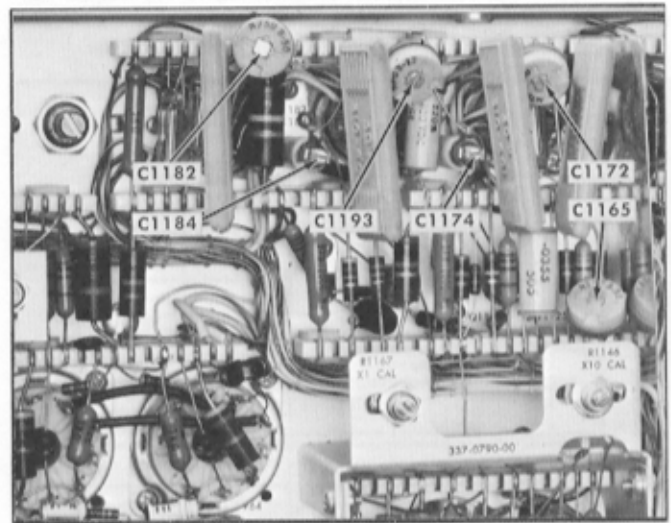

Fig. 6-47. High-speed sweep compensation adjustment, A sweep.
If the linearity from the 1st to 2nd marker is exceedingly poor, check the position of the slugs in C1174 and C1184 (Fig. 6-47). The slugs should normally be positioned about five turns above the metal wiper contacts. If the slugs are readjusted so they are five turns out, repeat step (ae).
- f. Adjust C1193 (see Fig. 6-47) for maximum sweep expansion.
- g. Adjust C1182 (see Fig. 6-47) for maximum sweep expansion.
- h. Adjust C1172 (see Fig. 6-47) for maximum sweep expansion.
- m. Adjust C1165 (see Fig. 6-47) for 1 cycle/2 cm and so the sine-wave peaks at the 1-cm and 9-cm locations coincide with their respective graticule lines.